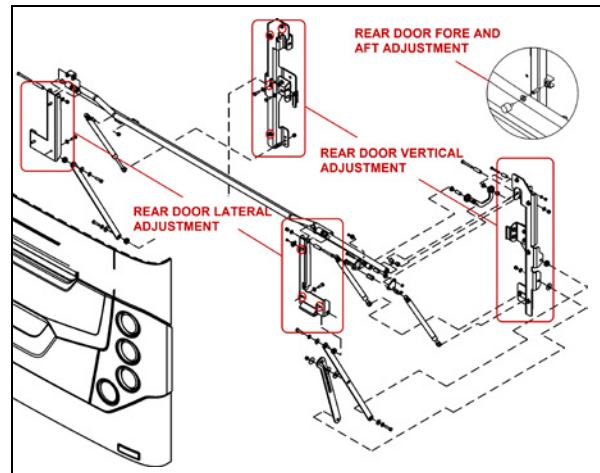

FIGURE 106: ENGINE COMPARTMENT DOOR
1. To adjust the door VERTICAL position, loosen the bolts (4 on each side) holding the door supporting arm and gas springs bracket to the *vehicle structure* (Figure 106).
2. To adjust the door LATERAL position, loosen the bolts (3 on each side) holding the door supporting arm and gas springs bracket to the *door* (Figure 106).
3. Adjust the door FORE & AFT position by screwing/unscrewing the rubber door stops on each side of the door opening (Figure 106).